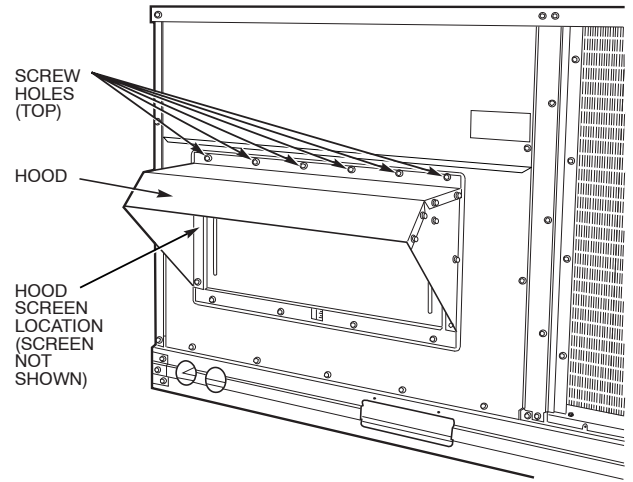
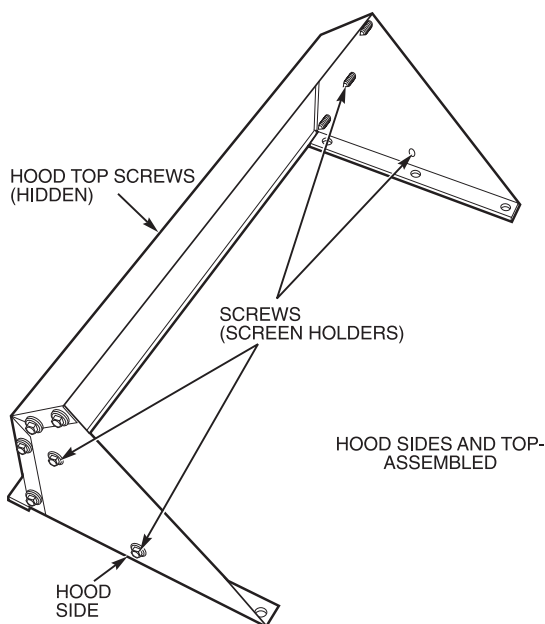

Fig. 15 – Optional Manual Outdoor-Air Damper with Hood Attached
Fig. 14 – Outdoor-Air Hood Details
5. Place the hood on the front of the outdoor air opening panel. See Fig. 14 for hood details. Secure the top of the hood with the 6 screws removed in Step 3. (See Fig. 15.)
7. Align the screw holes on the hood with the screw holes on the side of manual outdoor-air damper. (See Fig. 14 and 15.) Secure the hood with 8 screws from Step 6.
9. Remove and save the screws currently on the sides of hood. Insert the screen. Secure the screen to the hood using the screws. (See Fig. 15.)